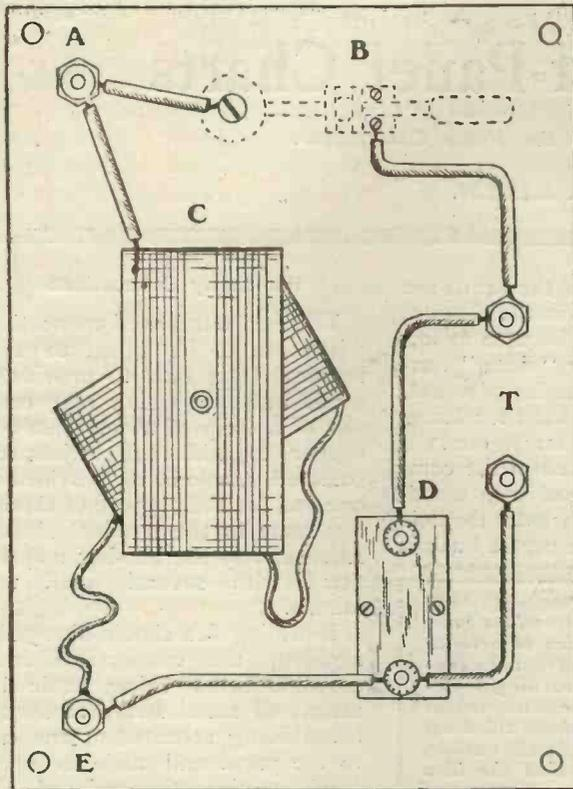

Fig. 1a.—Back-of-panel view of a variometer-tuned crystal set.
**Crystal Receiver with Variometer Tuning—Fig. 1a**